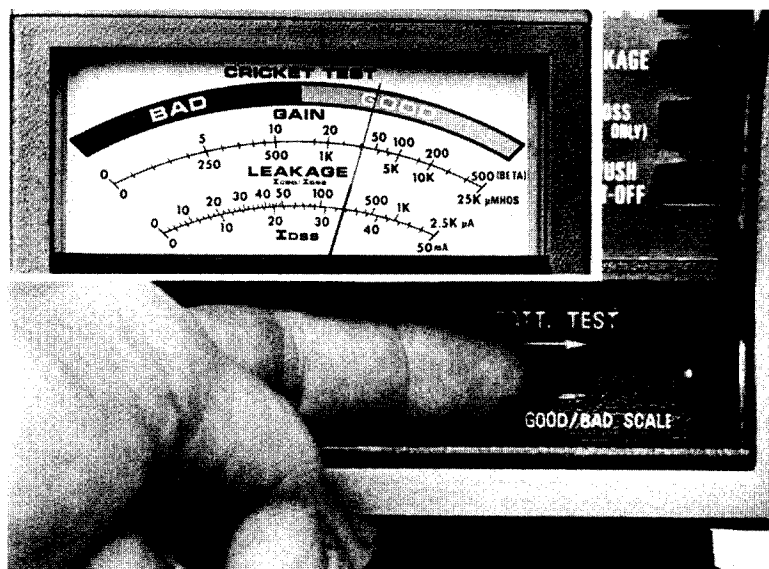

Fig. 3: Operating battery test switch.
2. Slide the right-hand switch in the lead storage compartment to the right. (See Fig. 3.)